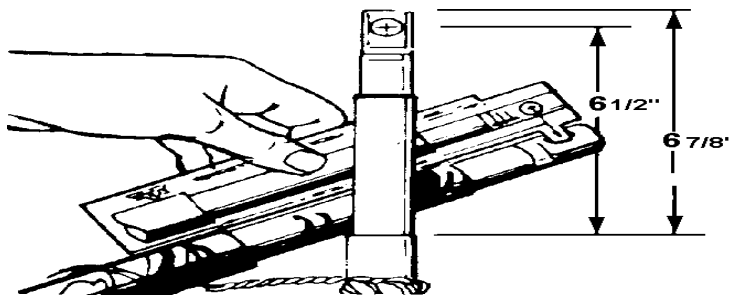

Figure 6, Outer semi-conductor jacket removed
- Carefully remove the outer semi-conductor jacket 6-1/2" back from the center line of the threaded connector eye using the template supplied (Figure 6).